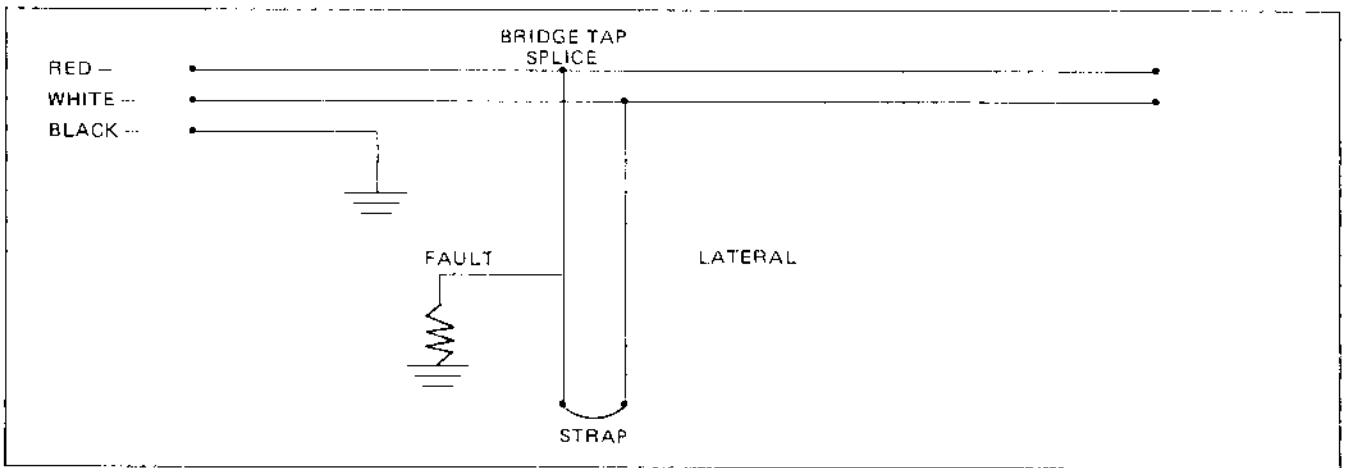

Figure 11 — Bridge Tap Splice
(B) To locate the fault, disconnect the strap across the main pair and re-strap across the end of the lateral pair (Figure 11). Repeat the fault locating routine. The measurement will be the true location of the fault between the bridge tap splice and the end of the lateral.